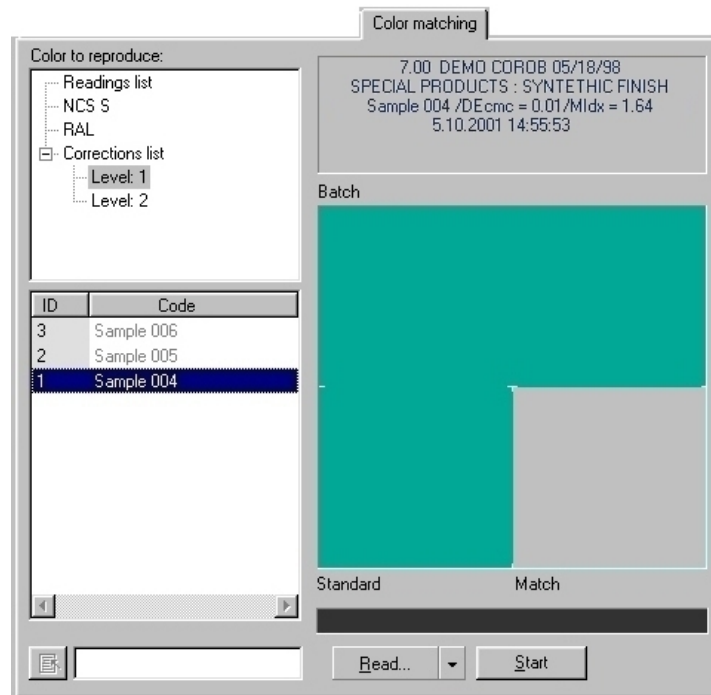

Figure 36
- Click the **Read...** button (appropriately configured) to read the draw-down of the dispensed color (chapter "Using the color measuring instrument" on page 60). A preview of the color read is displayed in the largest section, titled Batch (Figure 36).